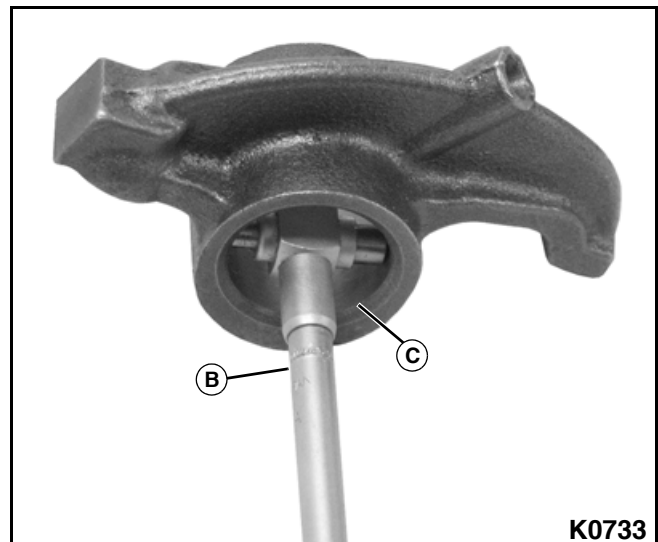

Figure 3-129: Measuring the Rocker Arm Shaft Bore
3. If movement is felt, disassemble and measure the inside diameter (bore) (C) of the rocker arm, using the appropriate bore gauge (B). **See Figure 3-129.**